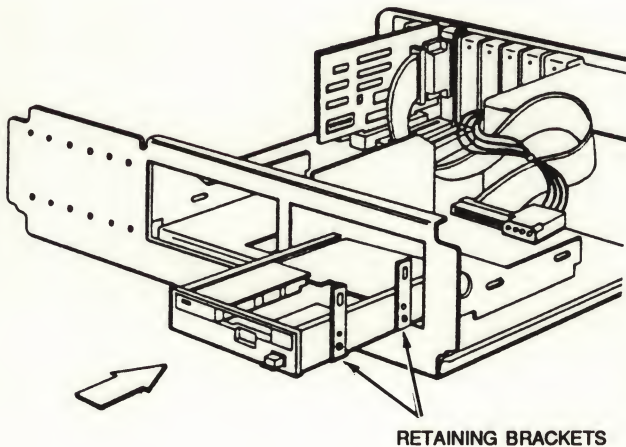

Figure 3-8 Connecting Retaining Brackets to an Internal Tape Drive
14. For an IBM PC/XT-type computer, screw the retaining brackets (provided with the internal tape drive) to the drive as shown in Figure 3-8.